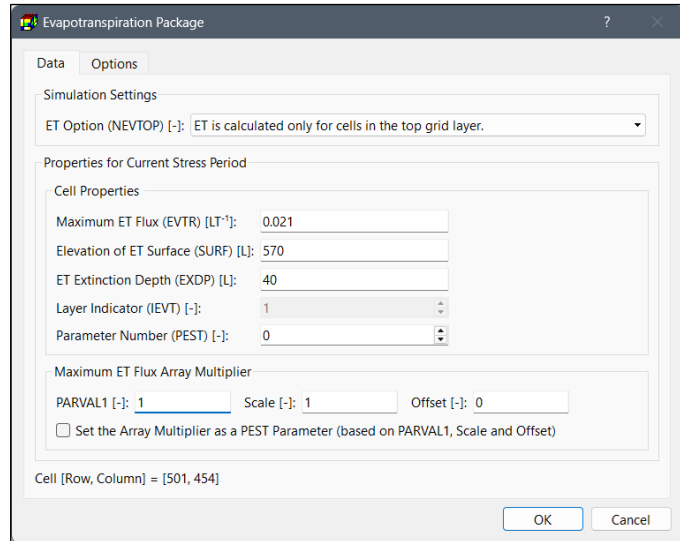

Figure 58. The Evapotranspiration Package dialog box
1. **All input methods:** Figure 58 shows the dialog box used to define cell, vertex, or polygon properties.